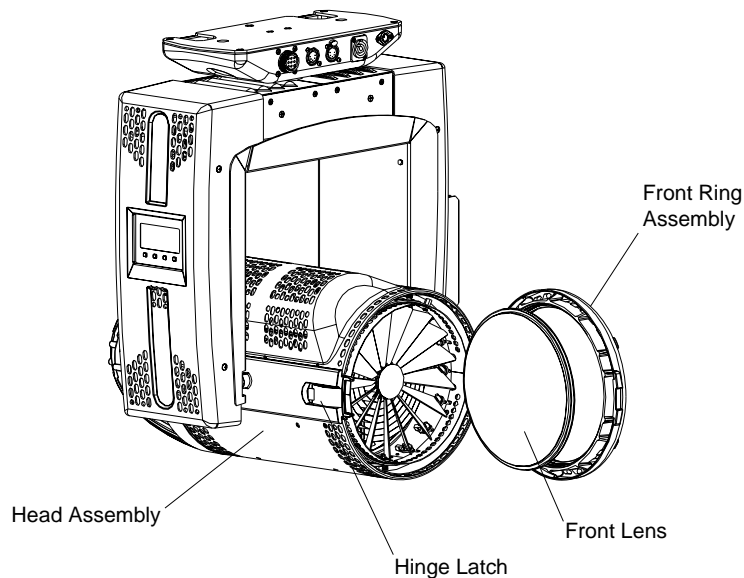

Figure 3: Replacing Front Glass
Step 2. At front ring assembly, open latch and swing open. Refer to Figure 3.